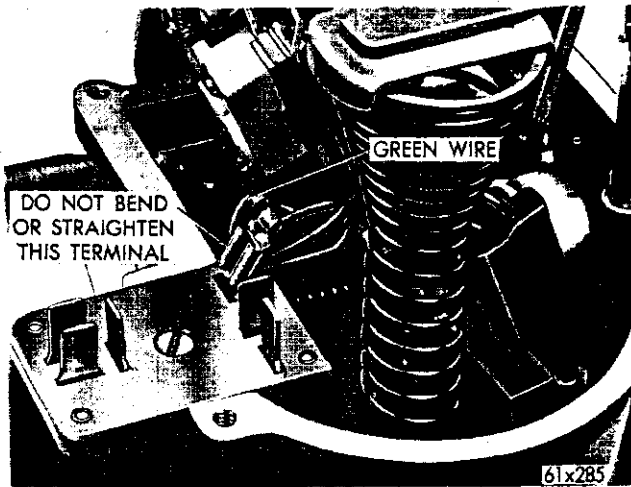

Fig. 38—Electrical Terminals
(2) Disconnect the drive cable at the base of the unit. Remove the cover. Disconnect the green wire from the terminal block (Fig. 38).